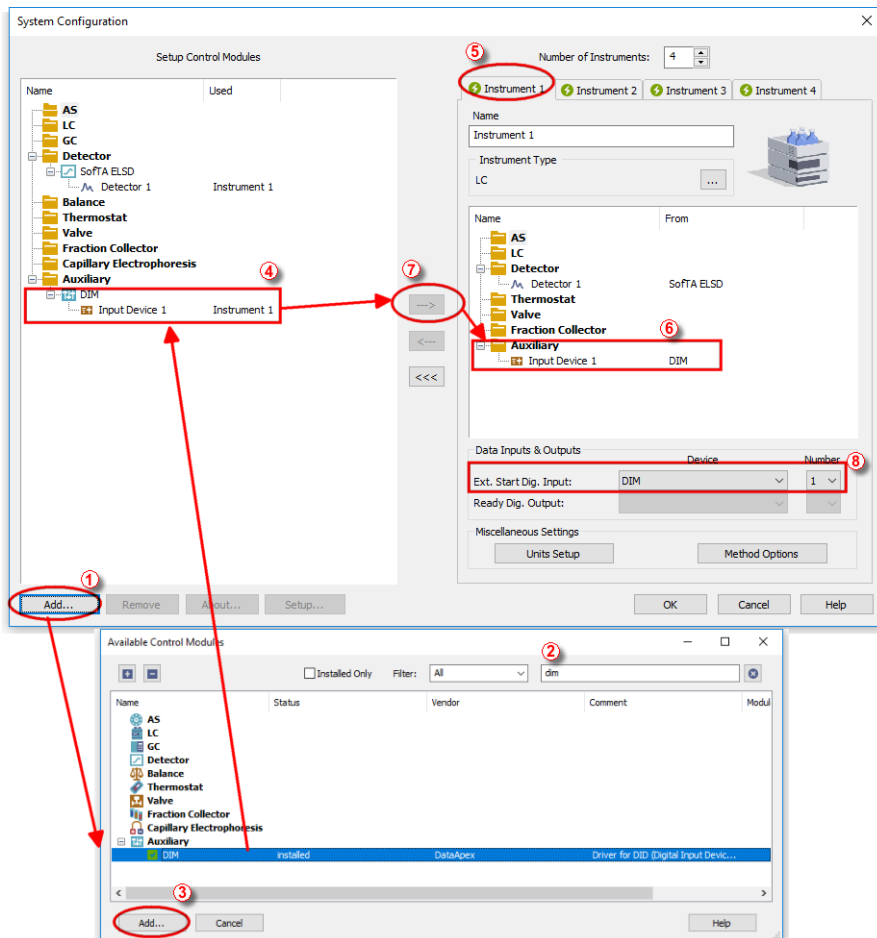

Fig 3: System Configuration
- Press the **Add** button ① (See **Fig 3** on pg 3.) to invoke the **Available Control Modules** dialog.
- You can specify the searching filter ② to simplify the finding of the driver.
- Select the **DIM** item in the *Auxiliary* section and press the **Add** ③ button.